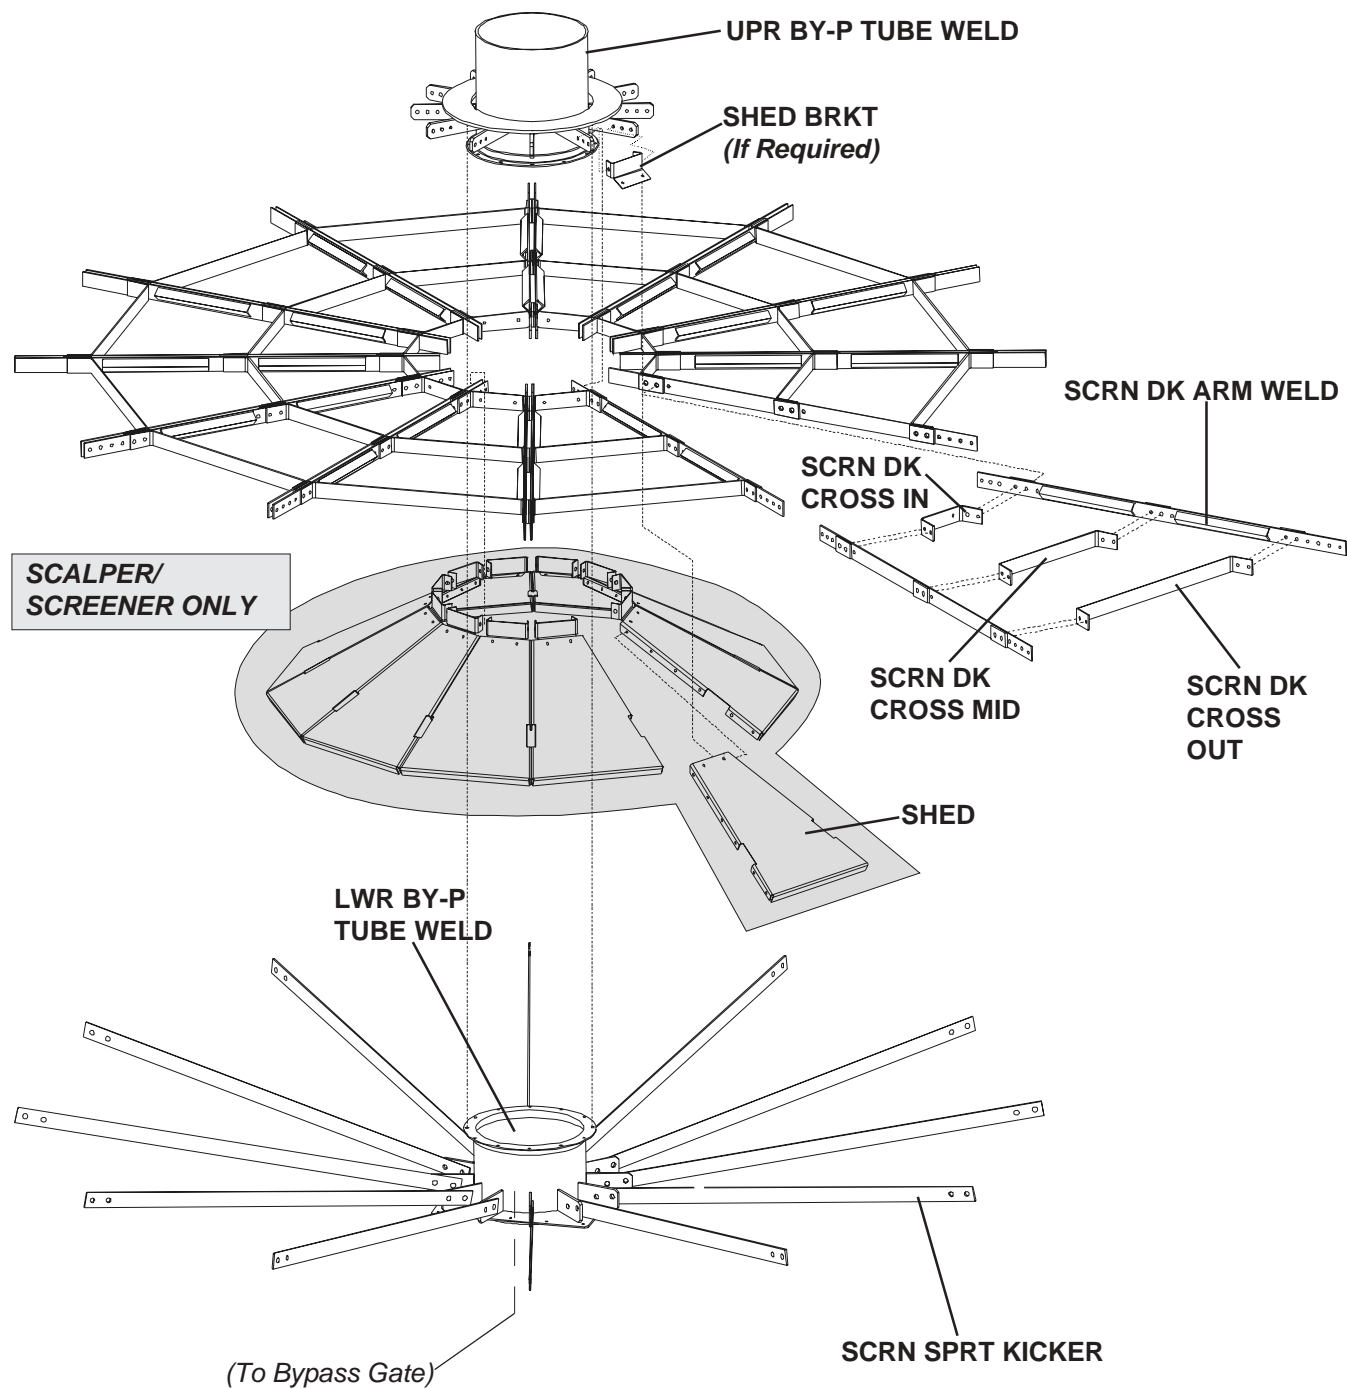

Fig. 6-1
If the unit is a Scalper/Screener, line up hole on **SHED BRKT** with holes on **SCRN DK ARM WELD** & **UPR BY-P TUBE WELD**. Attach together using a 1/2" x 1-1/2" bolts. Leave fasteners loose at this time. (See Fig 6-1 & 6-3)
4. The **SCREEN DK CROSS** bars slide between the Screen Deck Arms and fasten using the 1/2" x 2-1/2" Gr 5 bolts and flanged nuts. Cross bars install at each of the welded spacer locations on the Screen Deck Arms. (See Fig. 6-1 & 6-3.)
7. If the unit being assembled is a **Scalper/Screener**, fasten the **SHEDS** to the previously installed **SHED BRKTS** using 3/8" x 1" Gr 5 bolts and flanged nuts. **Some units use a special sheet at the location of the Gate Drive Shaft.** Connect each shed panel at the seams using the same bolts. Tighten the assembly bolts after all of the Sheds are installed. (See Fig. 6-1 and Photo)